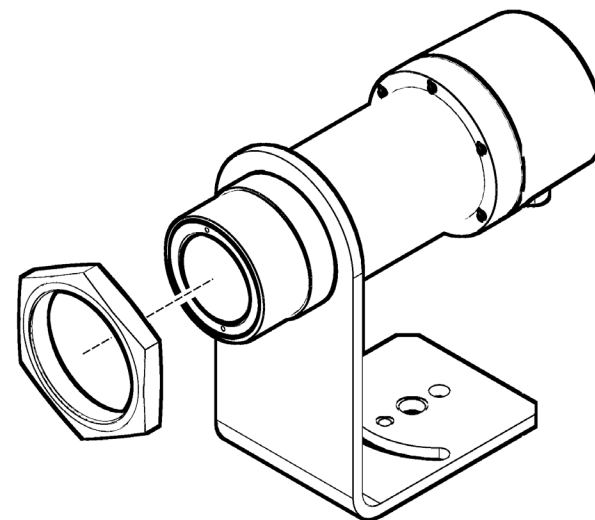

Fig. 2
- 3) Refer to Fig. 2. Insert the Thermometer into the Mounting Bracket.